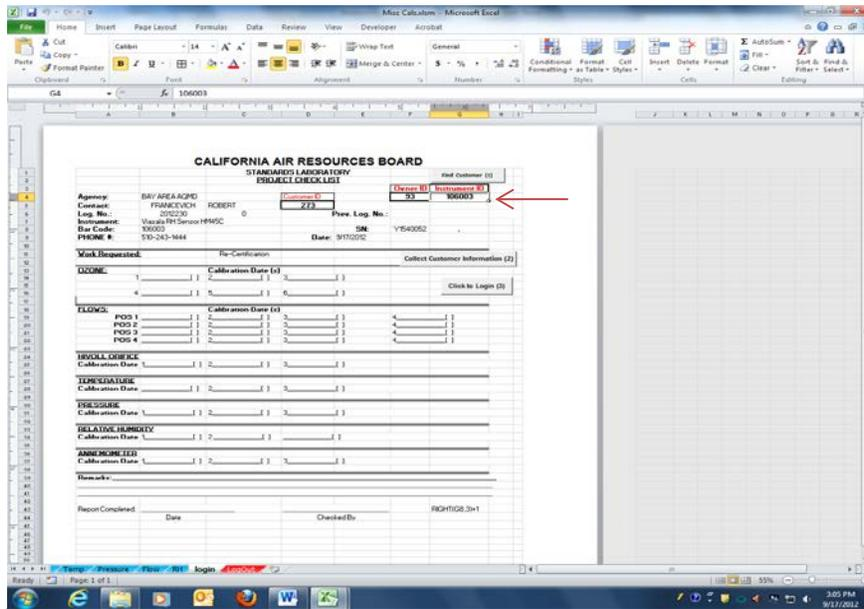

Figure 16: Instrument ID
12.9 Enter the “Instrument ID” number into cell G4. See Figure 16.